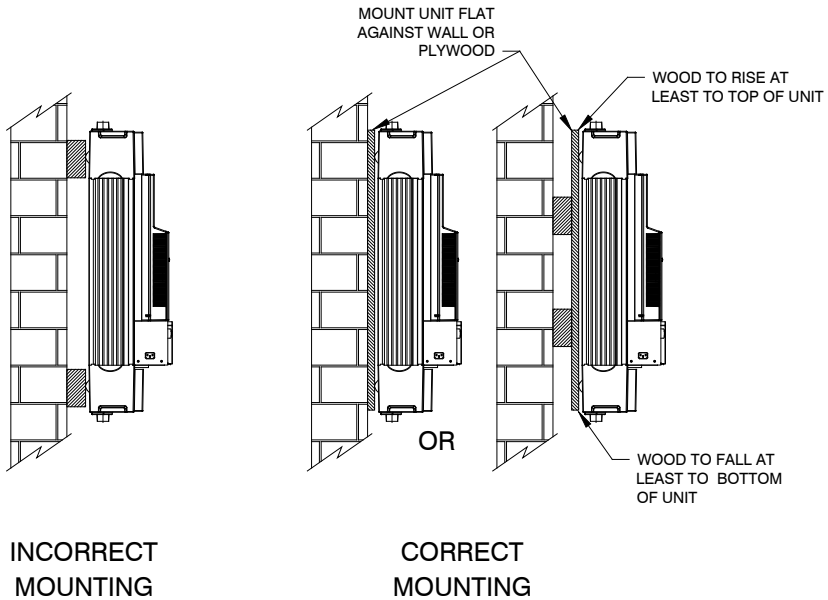

Figure 1D
Step 2: The KUV 1200x has four keyhole slots for convenient mounting – all four should be used. To mount the system, use the template, included, to position the two top holes. **The unit should be secured vertically to a solid wall large enough to cover the complete backside of the unit – See Figure 1D. Do not** install the system horizontally. Remove the top and bottom covers of the unit to make the mounting holes accessible.